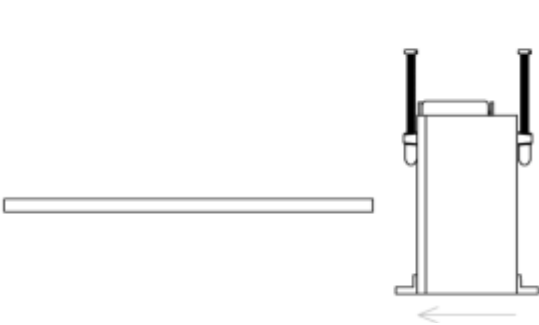

Figure 28: Pulling the transformer on the primary conductor
2. Pull on the transformer on the primary conductor as shown in Fig. 28. When pulling the transformer on the primary conductor it has to be placed in the same position to each other as it will later on be mounted (with the conductor positioned perpendicular to the transformer).